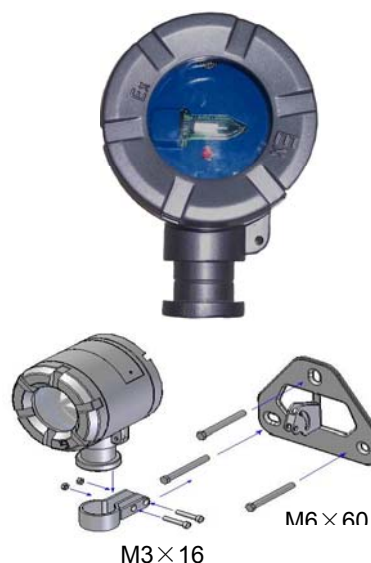

Fig. 1
- (1) Fig. 1 is the schematic diagram for installing the detector.
- (2) Please check the following after installation: